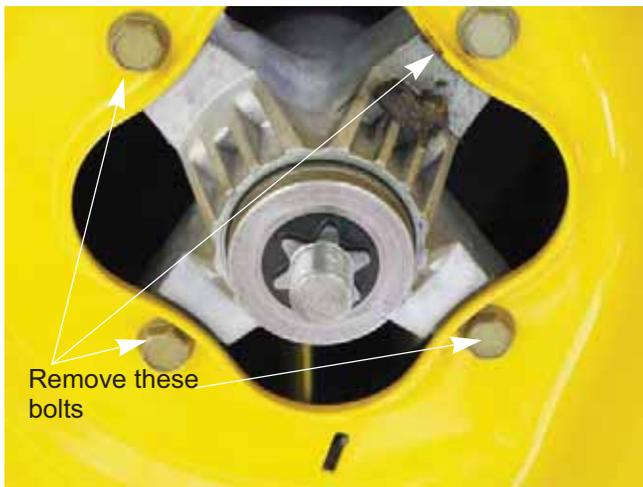

Figure 8.17
5. Remove the four bolts fastening the spindle to the deck. See Figure 8.17.